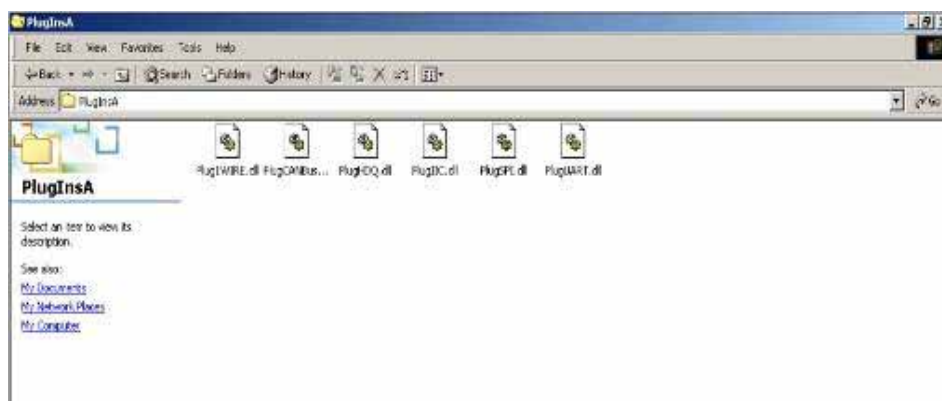

Fig4-35 - PlugInsA
STEP 1. Put the CAN 2.0B Plug in the PlugIns as the Fig4-35.